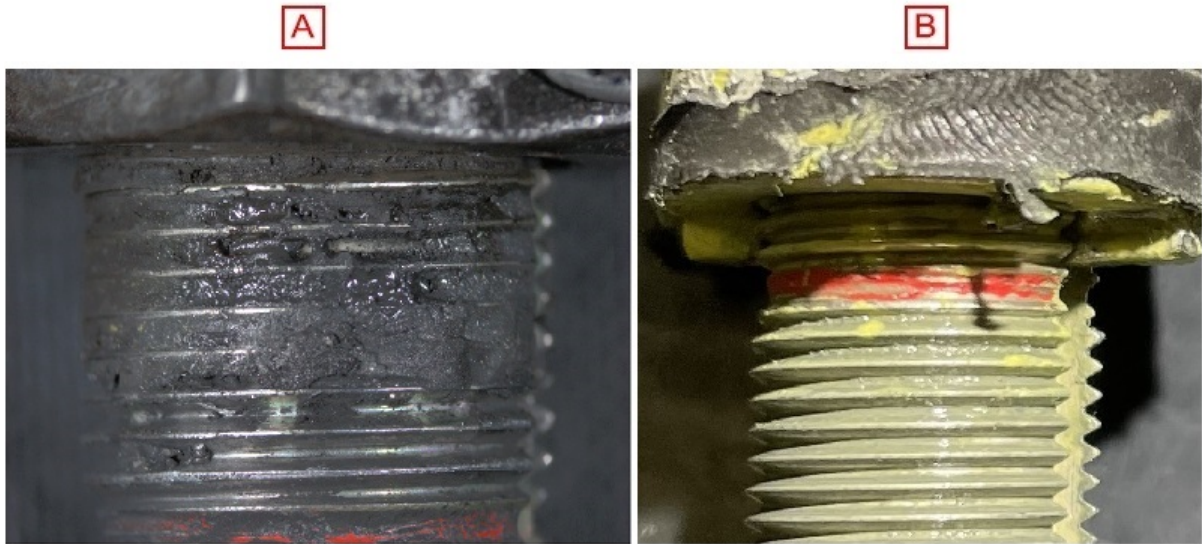

Figure 2
- 4.3.3. Do a detailed visual inspection of threads of the Ball bearing end EMRL8RSP3D (1) or Ball bearing end EMRL8RSP3C (2) or Ball bearing end 6701800800 (3) (Figure 2).
- 4.3.3.1. If there is no dirt, no corrosion and no damaged threads (Figure 2, Detail B):
- Clean the Ball bearing end EMRL8RSP3D (1) or Ball bearing end EMRL8RSP3C (2) or Ball bearing end 6701800800 (3) with Cleaning agent CM 208. Refer to Work Card Use of cleaning products on individual parts and on helicopters - Cleaning MTC 20-04-01-102 Cleaning agent
- Keep the removed Ball bearing end EMRL8RSP3D (1) or Ball bearing end EMRL8RSP3C (2) or Ball bearing end 6701800800 (3).
- 4.3.3.2. If there is dirt (Figure 2, Detail A), corrosion or damaged threads:
- Discard the Ball bearing end EMRL8RSP3D (1) or Ball bearing end EMRL8RSP3C (2) or Ball bearing end 6701800800 (3).